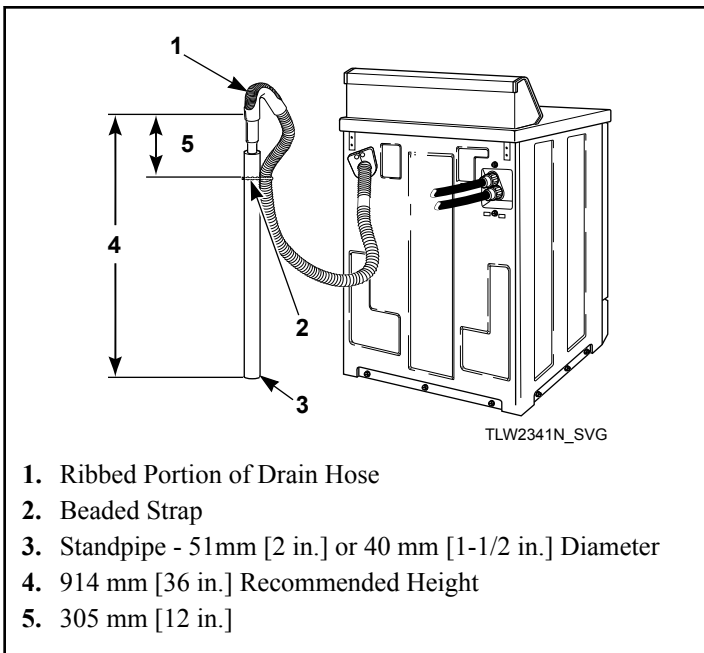

Figure 5
- Remove the beaded strap from accessories bag and place around standpipe and drain hose, approximately 300 mm [12 inches] down from the top of pipe. Refer to *Figure 5*.